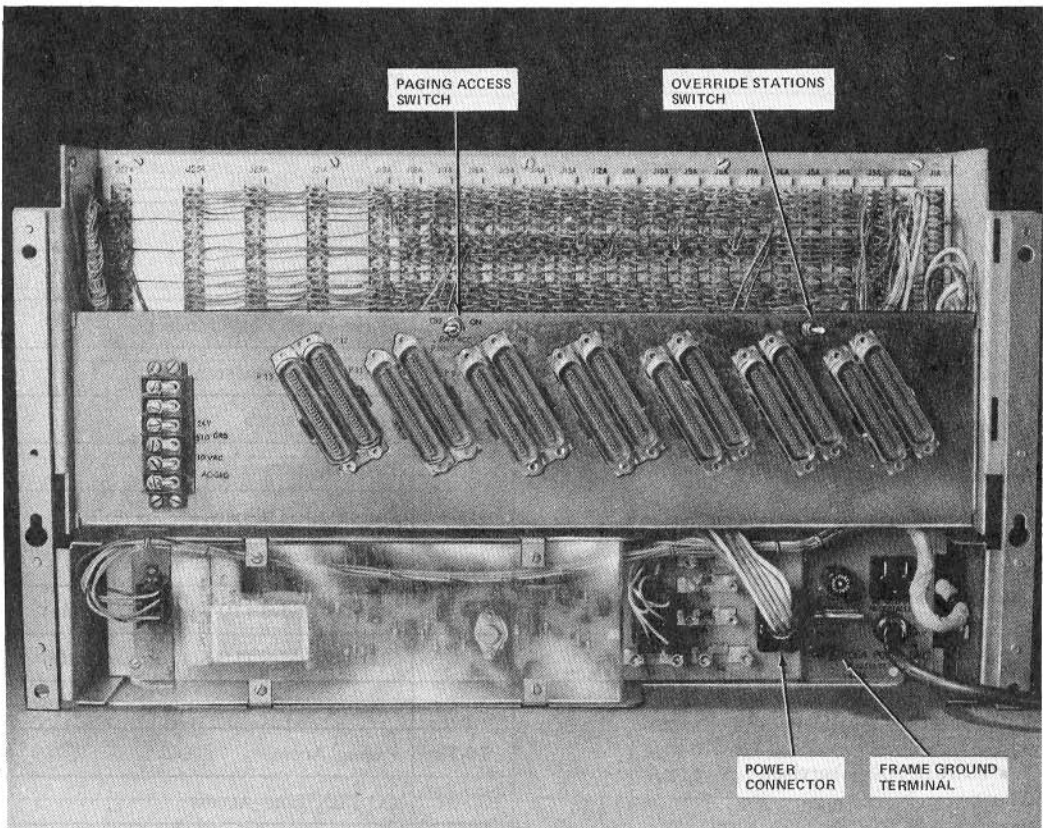

Fig. 1—572A1 KSU (Rear View)
2.03 All wiring, except power, is brought into the 572A1 KSU through connector cables plugged into the rear of the unit (Fig. 1). An optional 184C1 backboard has been developed as a terminal field for the 6B KTS, or existing blocks in the yellow field of a centralized key system can be used.